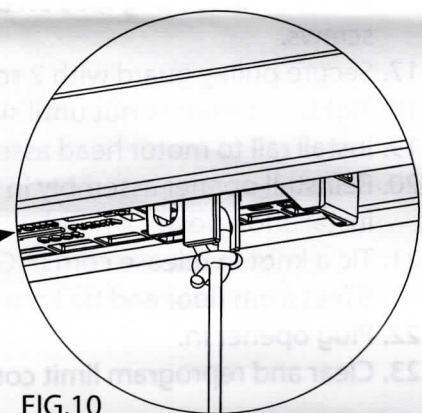

FIG. 10
21. Tie a knot in release cord (FIG. 10) to secure to carriage release cam. Install release handle approximately 6 feet from floor and tie knot to secure.